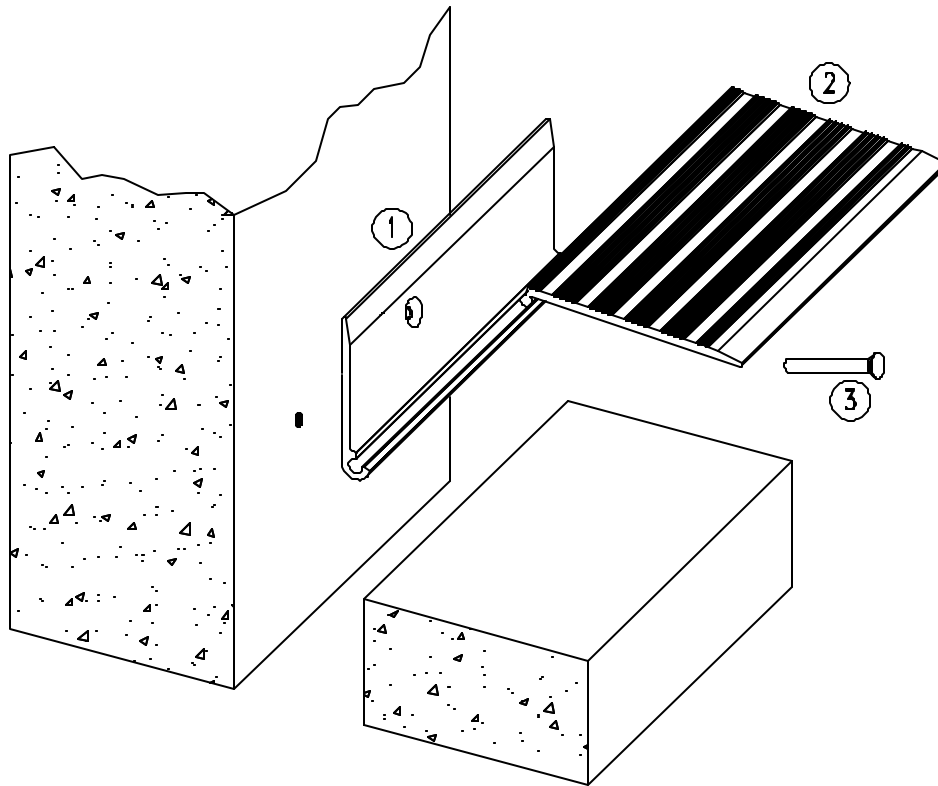
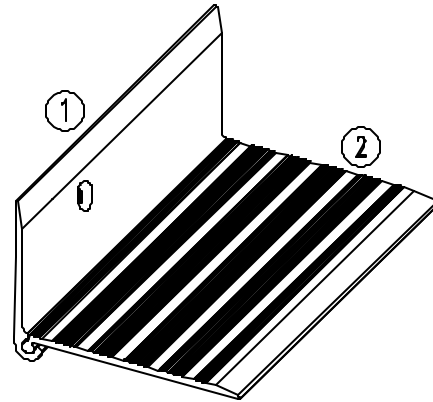

Figure 1
Figure 2
STEP 1. Select the base member. Place the base member into its installed position. Ensure that the base member is straight, level, and properly aligned. Using the base member as a template, mark the location for the anchor holes on the concrete. Remove the base member from its position and drill the anchor holes at the marked locations (Figure 1).
STEP 2. Select the base member and its corresponding center plate. Assemble the joint cover system by sliding the round portion of the center plate into the base member channel (Figure 1 & Figure 2).